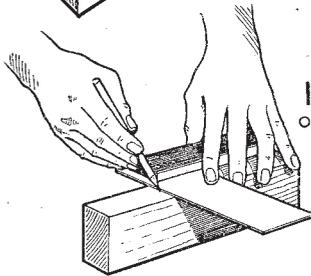

**FIG. 4. BEVELLED HAUNCHES ARE STRONGER IN LIGHT TABLE LEGS**
**Square and Bevelled Haunches.** The workshop term "haunch" refers not so much to the cut away part as to the bit left on. This may be square (as in Figs. 1 and 2), or bevelled (as in Fig. 4). The square haunch is the stronger job and is more generally employed. It provides a greater area for glueing and for gripping than the bevelled haunch. It is the usual form not only for this reason, but because, in the case of stiles grooved for panels, the grooves are often worked right through from end to end, thus partly forming the haunchings (as the recesses for the haunches are called). The depth of a haunching usually coincides with the depth of the groove. Where there are no grooves, it may be taken that, with rails and stiles from 1-1/2 ins. to 3 ins. wide, the haunchings should be from 1/4 in. to 3/8 in. deep.
worked right through. Although weak in themselves, there are instances in which bevelled haunches make for maximum strength. Take the case of the leg and top rail construction of a very light table, shown at Fig. 4.
The leg is 1 in. square. It will be seen from the diagram (A) in Fig. 4 that two square haunches come so close together that the wood between them would be likely to split, and so ruin the joints. Here bevelled haunches are preferable because they do not seriously weaken the end of the leg, and so they contribute to the strength of the whole corner.